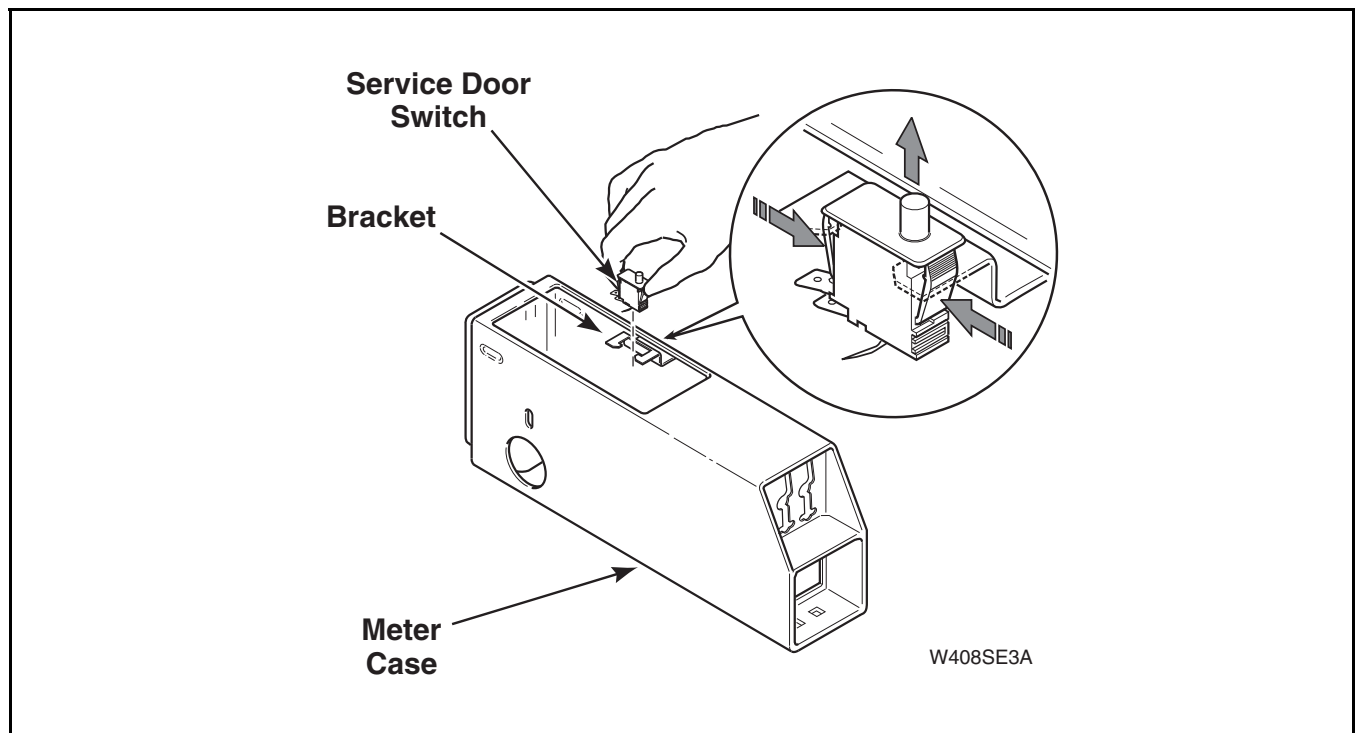
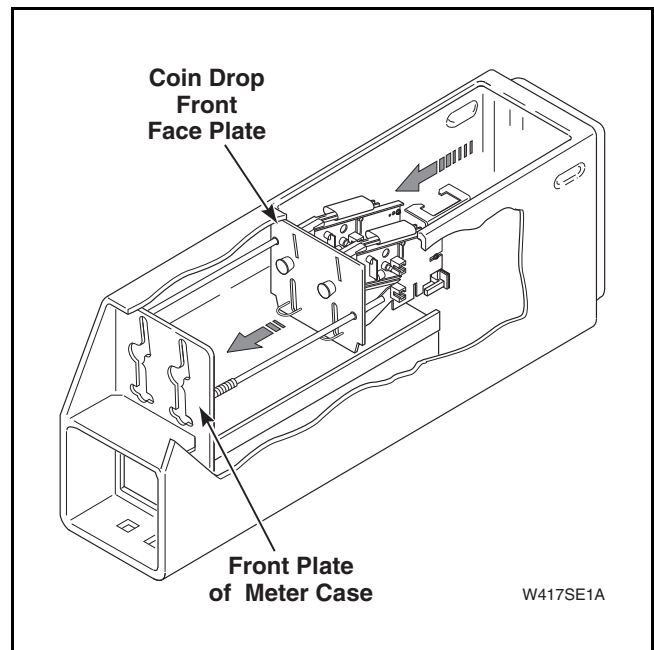

Figure 50
Figure 59
- (1) Unlock and open service door.
- (2) Disconnect wire harness from coin drawer switch and disconnect coin drops at disconnect plugs.
- (3) Press in on locking tabs of service door switch and remove switch from bracket on meter case, as shown in *Figure 50*.
- (6) Carefully slide coin drop forward into position, as shown in *Figure 59*. (Front face plate of coin drop should be secure against front plate of meter case.)
- (7) Using a 7/16 inch socket with No. 310P4 1/4 inch Ratchet Extension Tool, reinstall the two locknuts previously removed. Tighten locknuts firmly.
- (8) Reinstall coin drawer switch previously removed.
- (9) Reconnect wires by referring to the wiring diagram located inside the control hood.
- (10) Reinstall service door switch and wire harness into meter case bracket. Refer to *Figure 50*.